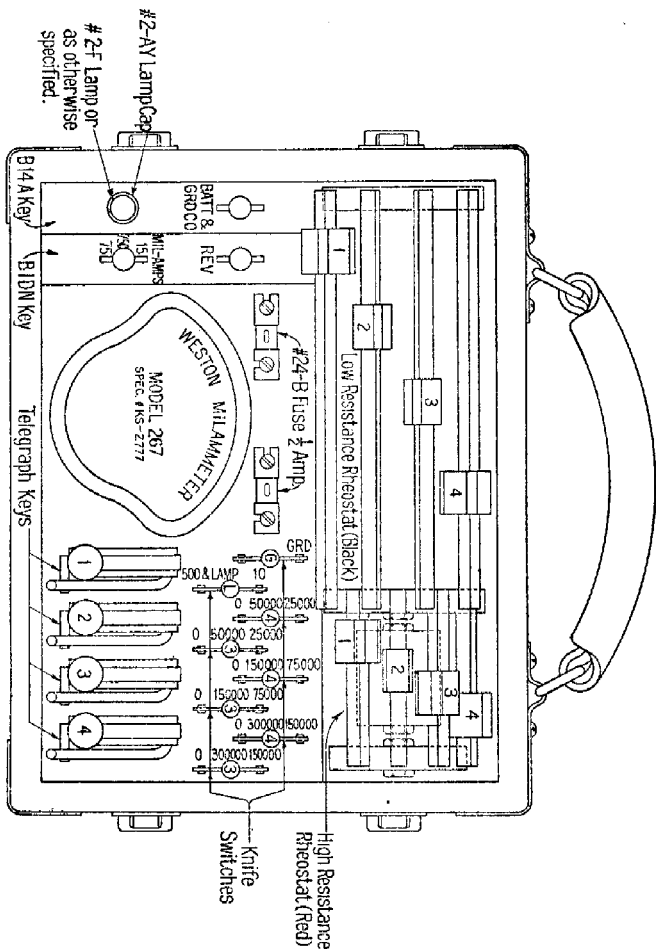

Fig. 7—No. 35-C Test Set—Apparatus Arrangement
2.3 The switching apparatus, which is exposed to view when the lid of the box is removed, is shown in Figure 7. Two rheostats are mounted in the rear of the box, and in front of
2.11 Connection to the test set is made through the jacks and binding posts, shown in Figure 7. The jacks are grouped under two designations, TEST and SIGNAL. Except for the two jacks designated EXT KEY, either jack under each designation can be used interchangeably, depending upon the type of plug employed, the top row taking the No. 110 and the bottom the No. 109 plug. The EXT KEY jacks each take the No. 110 plug.